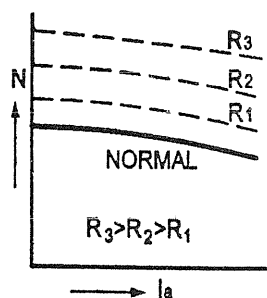

FIG. 4.45 : SPEED-ARMATURE CURRENT CHARACTERISTIC
- Fig. 4.45 shows the speed V/S armature current characteristics. Full line curve is obtained when no resistance is connected in the field circuit. Curves, when resistances are connected are shown by the dotted curves. Different curves are for different values of resistance connected in the field circuit. $R_3 > R_2 > R_1$.